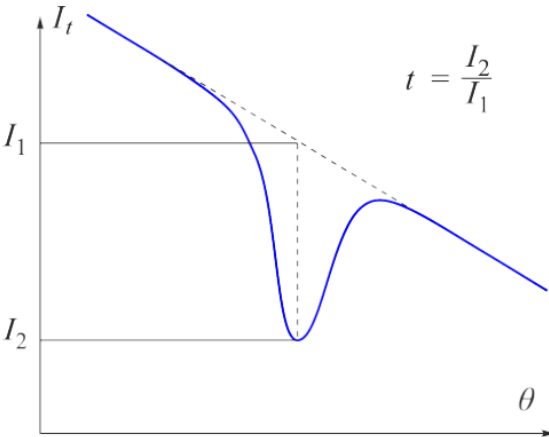

Fig. 15. Determining transmittance t with use of $I(\theta)$ plot
C.8 Determine the transmittance values t of 4 transmittance minimums of the sample Y (fig. 15). 0.6pt